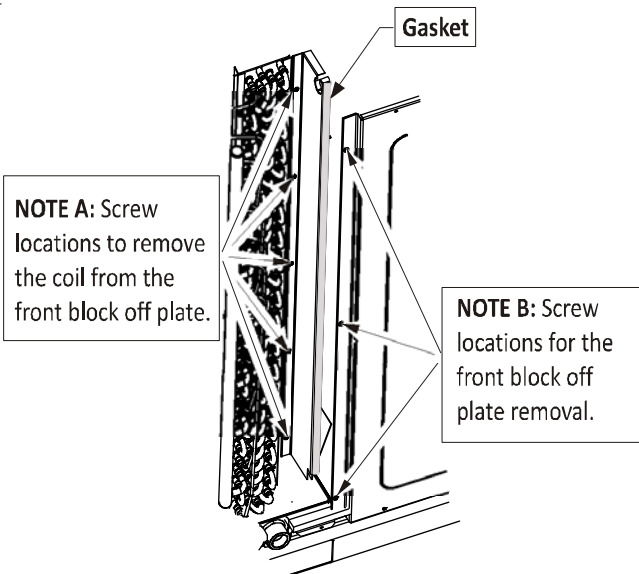

Figure 3
- C. Remove the five screws located on the front right of the coil which secures it to the front filler plate as shown in Figure 3 Note A.
- C. Remove the three screws located on the right side panel which secure the front block off plate as shown in Figure 3 Note B.
- E. Add a gasket to the edge of the front plate in the location shown in Figure 3.